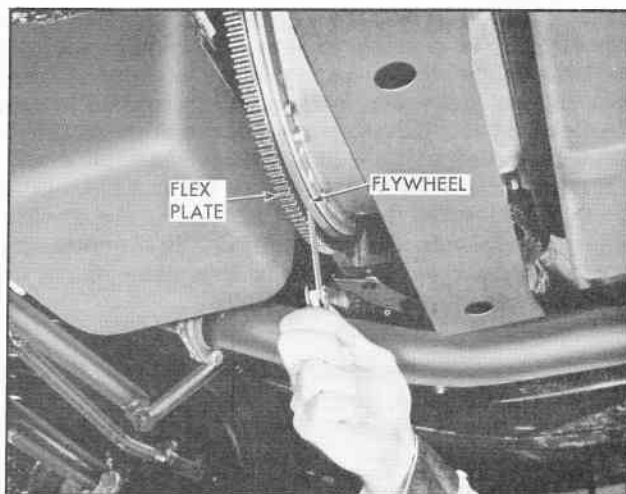

Fig. 1 Measuring Clearance Between Flywheel and Flex Plate
2. Rotate flywheel to position one flex plate mounting pad down. Push forward lightly on flywheel to seat it against crankshaft. Measure clearance between pad on flex plate and flywheel, using feeler gauges (Fig. 1) insert shims part no. 523087 (approximately .011") and part no. 523088 (ap-